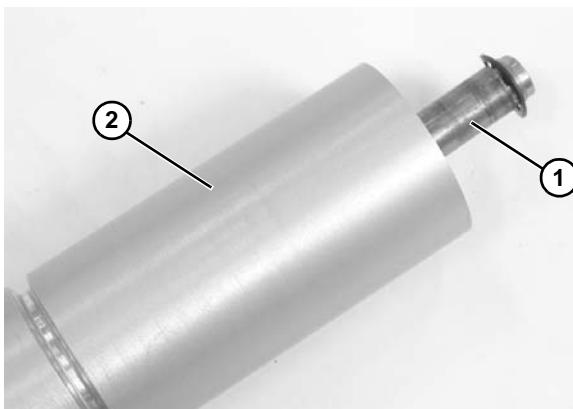

Figure 114
7. Slide the shaft assembly (**Figure 114, item 1**) out of the pulley (**Figure 114, item 2**).